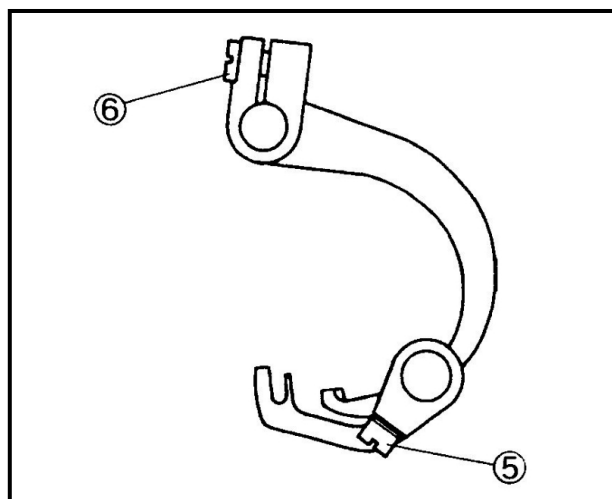

Fig.51
放鬆螺絲⑥去調整。(Fig.51)
Loosen the screw⑥to adjust them. (Fig.51)